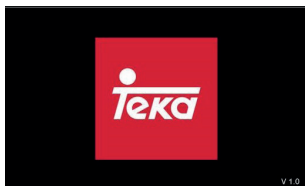
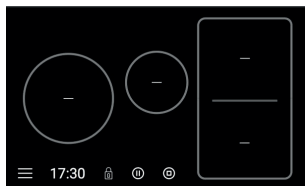

fig. 3
fig. 4
- 1 Touch the general on / off sensor (1) for, at least, one second. The on indicator light (3) lights up and blinks, indicating that the cooker is in the process of turning on. The touch screen will display the Teka logo (fig. 3). When the process is completed, it goes directly to the "main screen" (fig. 4).
Once the "main screen" is activated (fig. 4), you can turn on the zones that you wish.
When in the "main screen" (fig. 4) it is possible to simultaneously turn off all the zones by pressing the off icon.